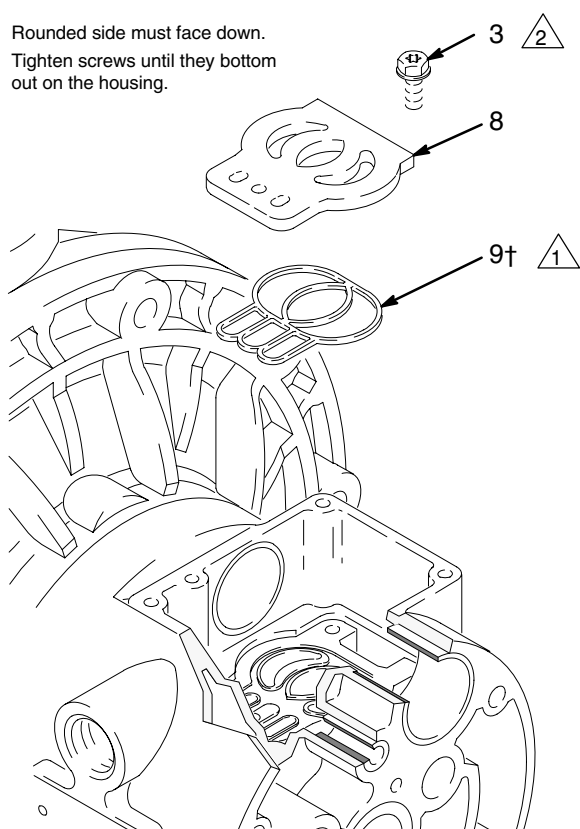

Fig. 9
5. Inspect the valve plate (8) in place. If damaged, use a Torx (T20) screwdriver or 7 mm socket wrench to remove the three screws (3). Remove the valve plate (8) and seal (9). See Fig. 9.
2. Install the valve plate seal (9†) into the groove at the bottom of the valve cavity. The rounded side of the seal **must face down** into the groove. See Fig. 9.
3. Install the valve plate (8) in the cavity. The plate is reversible, so either side can face up. Install the three screws (3), using a Torx (T20) screwdriver or 7 mm socket wrench. Tighten until the screws bottom out on the housing. See Fig. 9.